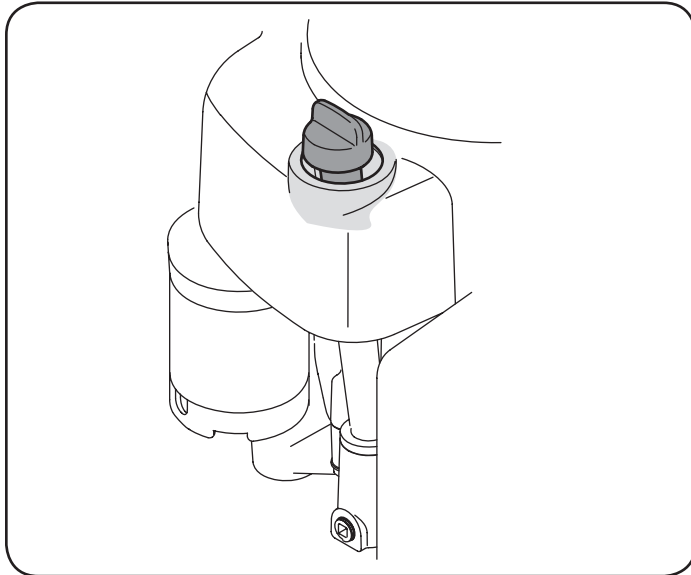

Figure 24
1. Wipe around dipstick cap and tube with a clean cloth to remove any debris. See Figure 24.